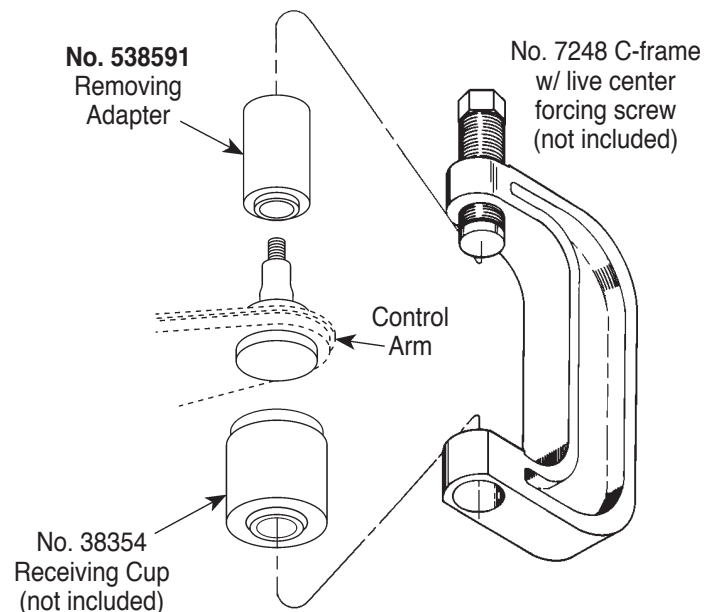

Figure 3—Removal
3. Assemble the ball joint press over the control arm as shown in Figure 3.